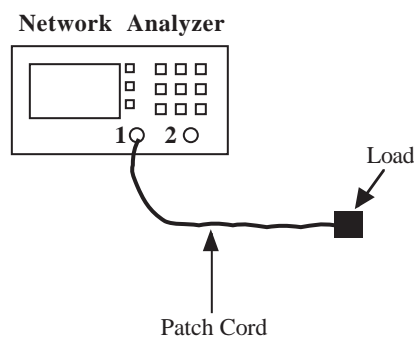

Figure 5-2: Block diagram for Section 5-6.1
2. Attach the patch cord to channel 1 as shown in Fig. 5-2.